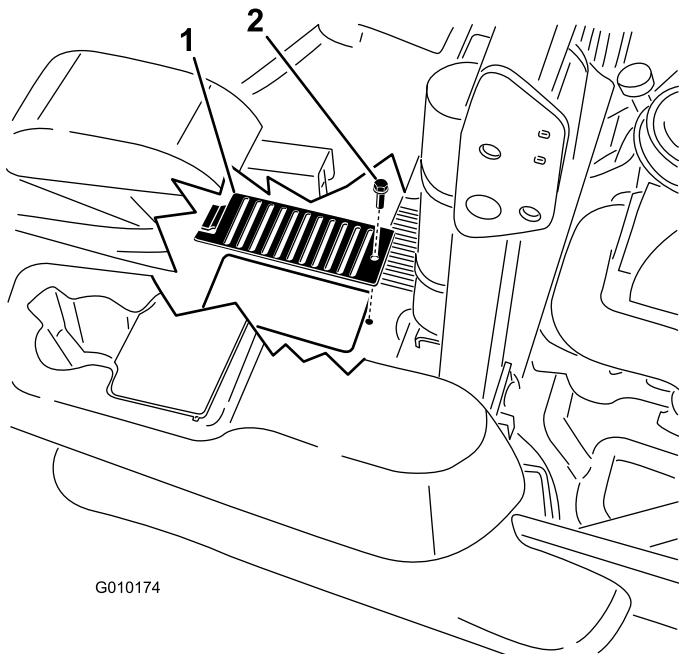

Figure 74
6. Remove the bolt and cover over and clean around each dipstick and hydraulic unit (Figure 74).